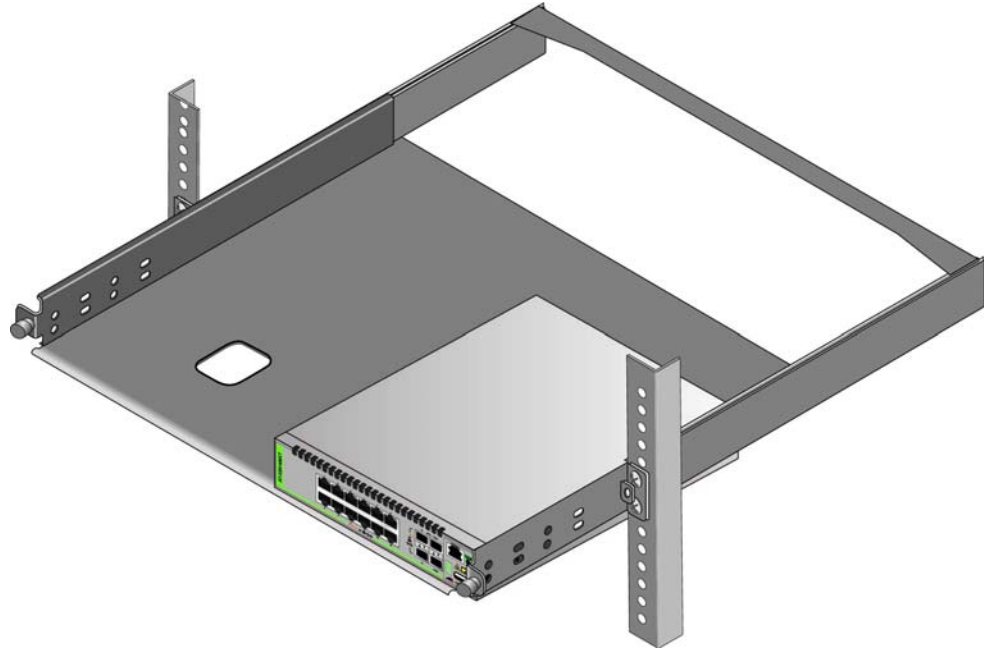

Figure 35. Placing a Switch in the AT-RKMT-J15 Bracket
7. Place the switch in the left or right side of the bracket, with its front panel facing the front of the bracket. If you are installing only one switch, you can install it on either side. Refer to Figure 35 on page 67.